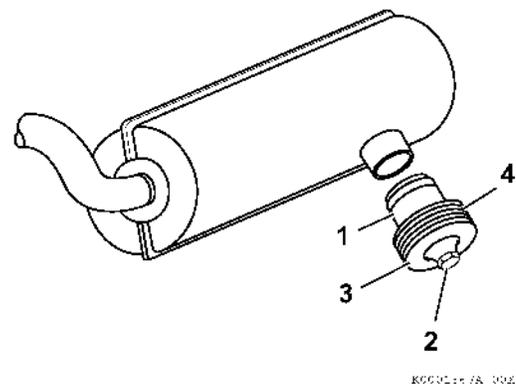

Figure 37
Clean the spark arrester (1, **Figure 37**) as follows.
1. Remove the lock nut (2, **Figure 37**), end cap (3, **Figure 37**) and diffuser discs (4, **Figure 37**) from the spark arrester.